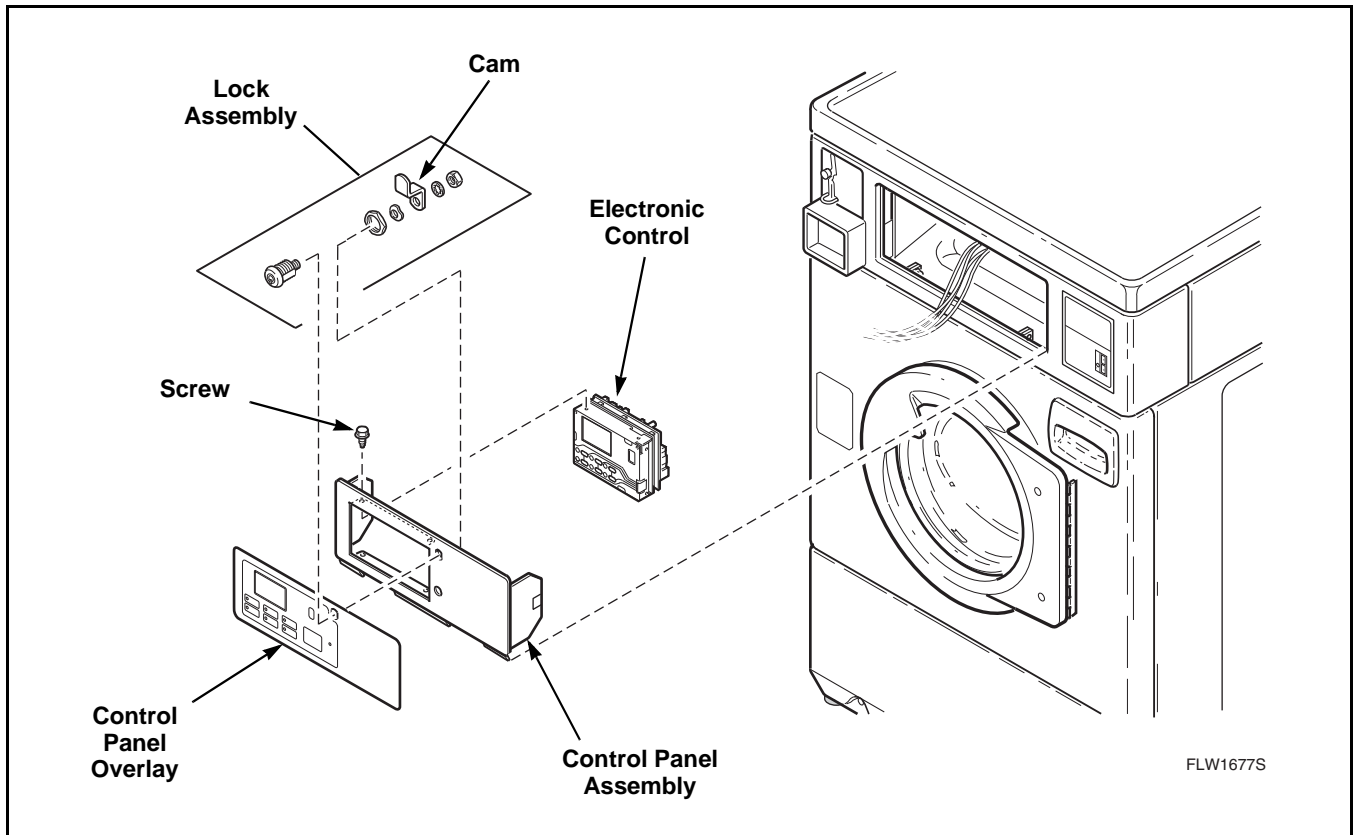

Figure 19
- (4) Support control panel, press in on locking tabs and unplug harness disconnect blocks from backside of electronic control.
- (5) Remove four screws holding electronic control assembly to backside of control panel. Refer to *Figure 19*.
- (6) Remove lock assembly from control panel. Refer to *Figure 19*. Remove control panel overlay by peeling it from the control panel assembly.
**NOTE:** Before removing protective backing from new overlay, check fit of overlay to control panel assembly. Refer to *Figure 19*. Use the lock hole in the control panel as the locating guide.
- (1) Once panel overlay is fitted to the front of control panel frame, carefully peel protective backing from the left end of panel overlay and press into place.
- (2) Remove rest of protective backing from panel overlay and press overlay into place on control panel assembly.
- (3) While holding control by its metal edges, place control in opening of control panel and fasten control down with four screws. Refer to *Figure 19*.
- (4) Follow wiring diagram and reconnect wires to control.
- (5) Reinstall control panel in control cabinet and lock control panel.